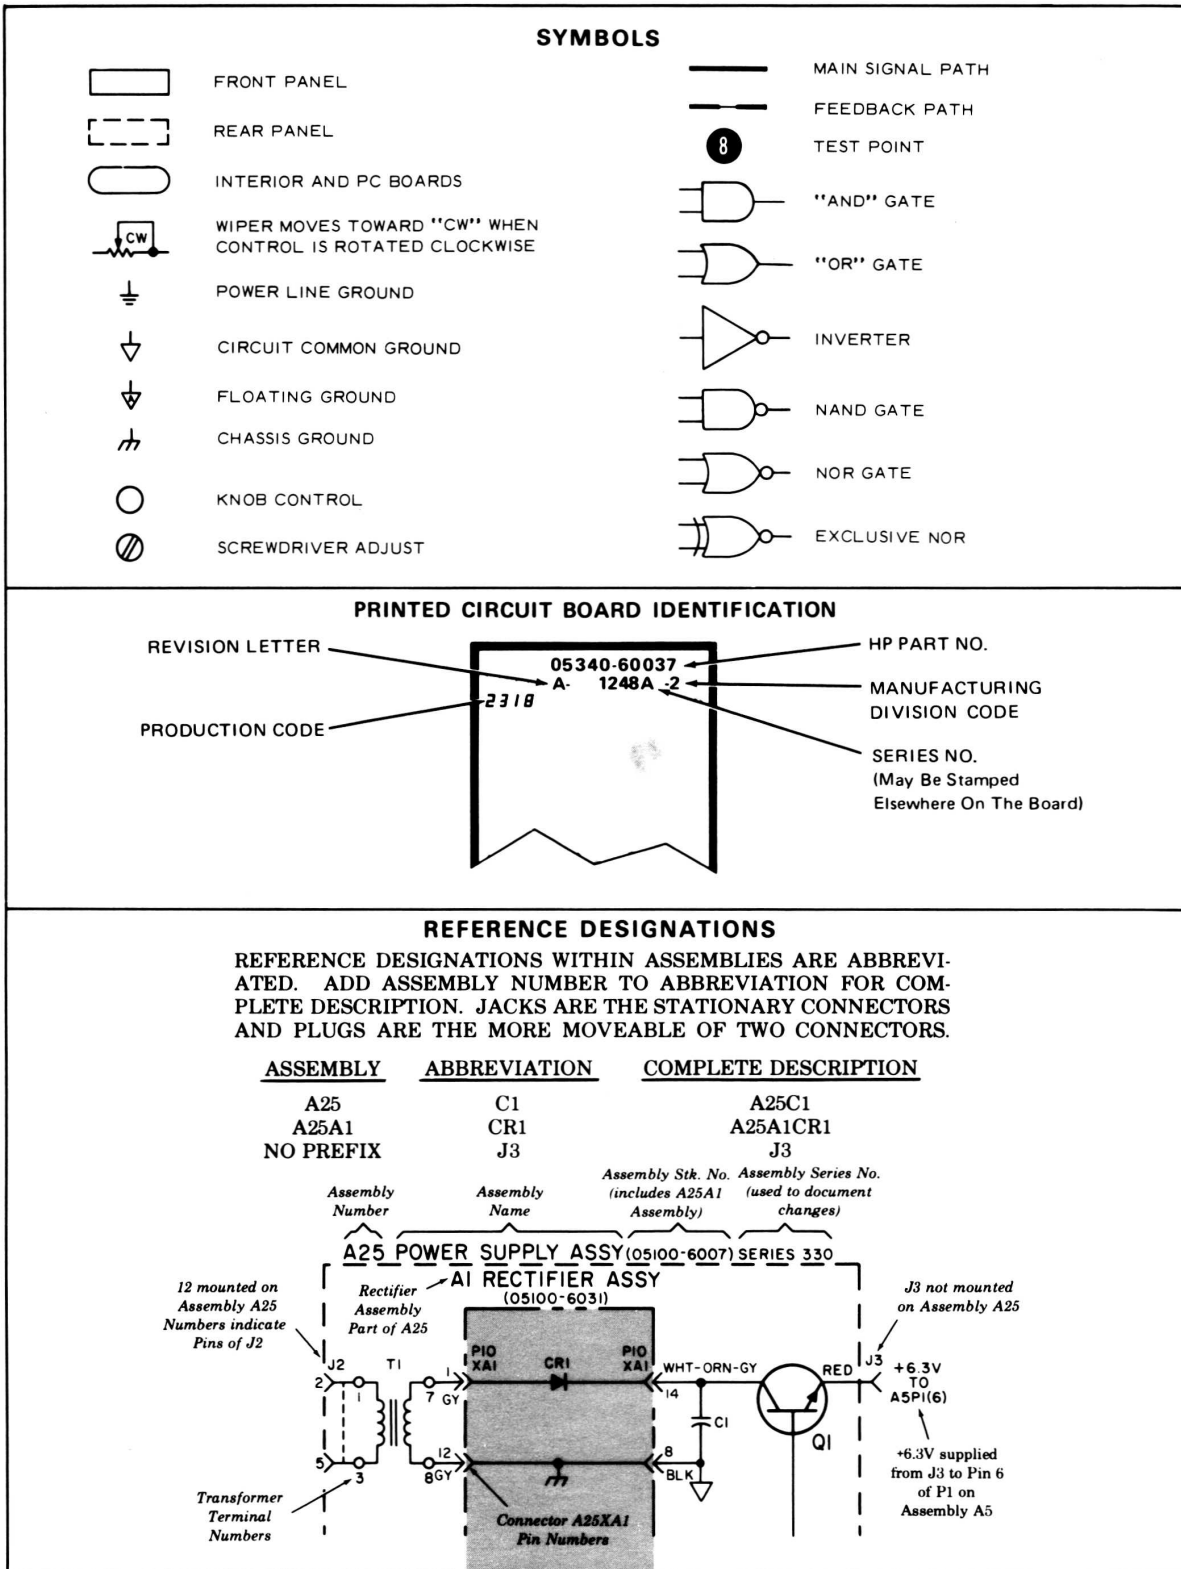

Figure 8-1. Schematic Diagram Notes
- 8-4. Figure 8-1 shows the symbols used in the schematic diagram. At the bottom of Figure 8-1, the system for reference designators, assemblies, and subassemblies is shown.